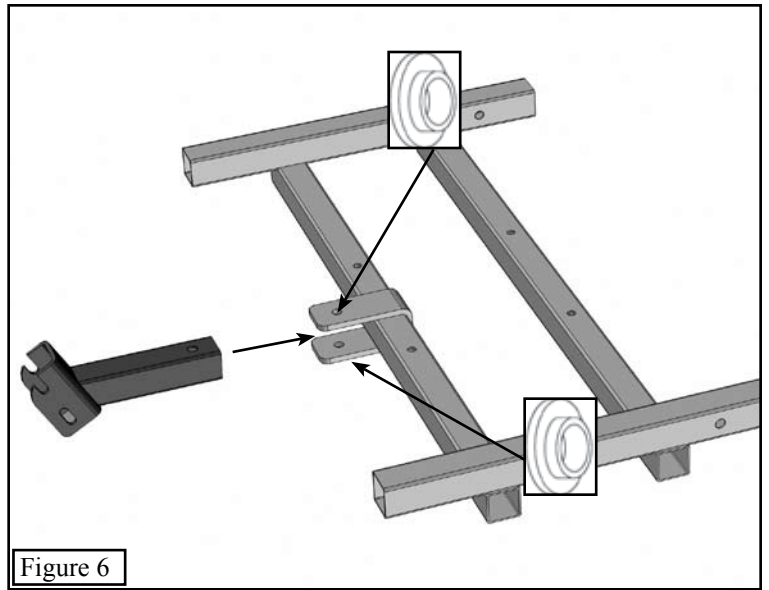

Figure 6
**Step 1.** Position the Seat Base and the Gun Rest Bracket as shown in **Figure 6**. Insert two short shank bushings into the outside holes on the Gun Rest Bracket.